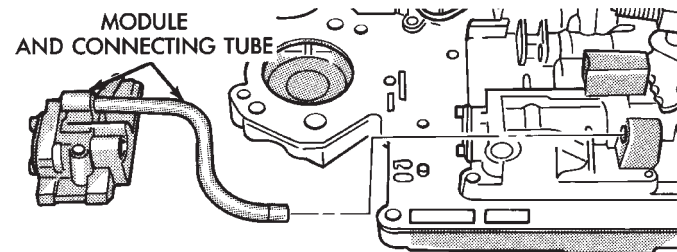

Fig. 46 Clutch Module And Connecting Tube
(12) Remove screws attaching converter clutch module to valve body and remove module and connecting tube (Fig. 46).